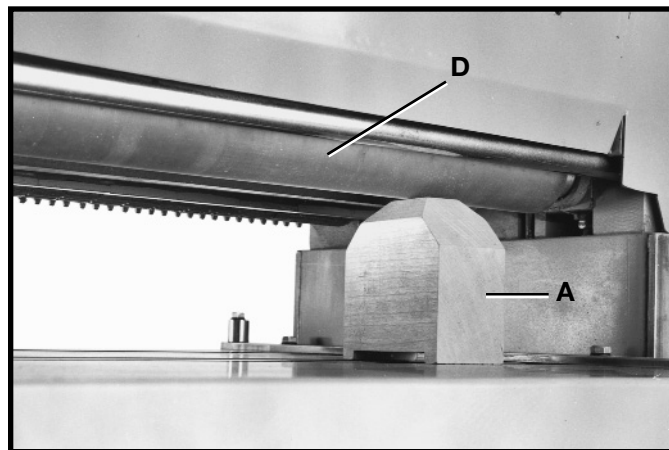
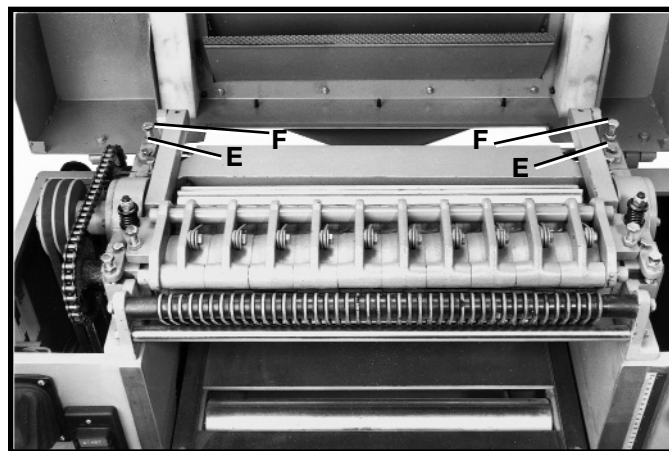

Fig. 44
Fig. 45
4. Place gage block (A) Fig. 44, under outfeed roller (D). The bottom of roller (D) should just touch gage block (A).
5. If an adjustment is necessary, loosen locknut (E) Fig. 45, and turn adjustment screw (F) until the outfeed roller just touches the top of gage block (A) Fig. 44.
7. Tighten locknuts (E) Fig. 45 after adjustments are completed.